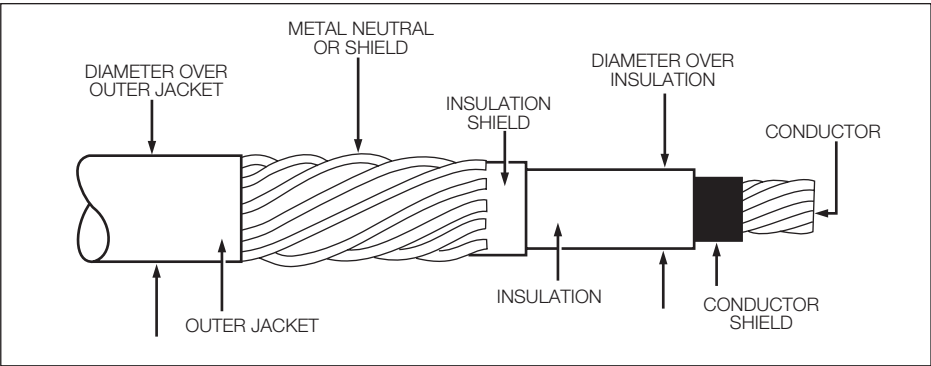

Figure 4.
STEP 1: Determine the cable's diameter over the electrical insulation as shown in Figure 4 (including tolerances) from cable manufacturer. Then identify a cable range from Table 3 that brackets the minimum and maximum insulation diameters. Select the CABLE RANGE CODE from the far right column.